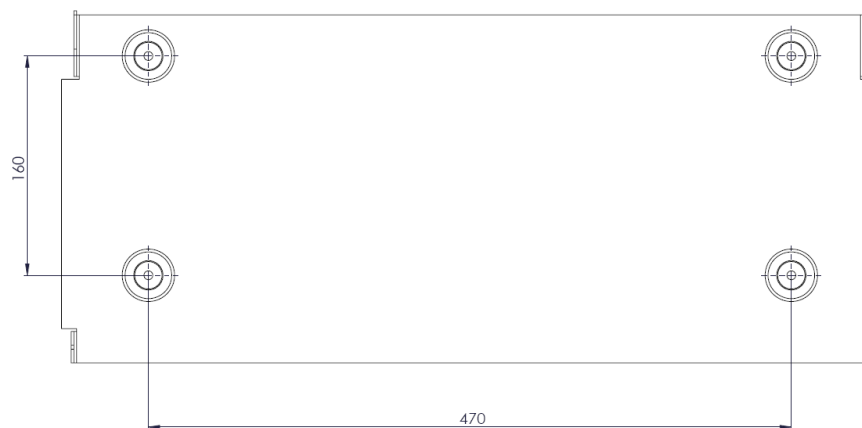

Fig. 9: Drill hole dimensions
- 4. Mark the position of the drill holes using the recess in the wall bracket, or mark them according to the dimensions in Fig. 9.